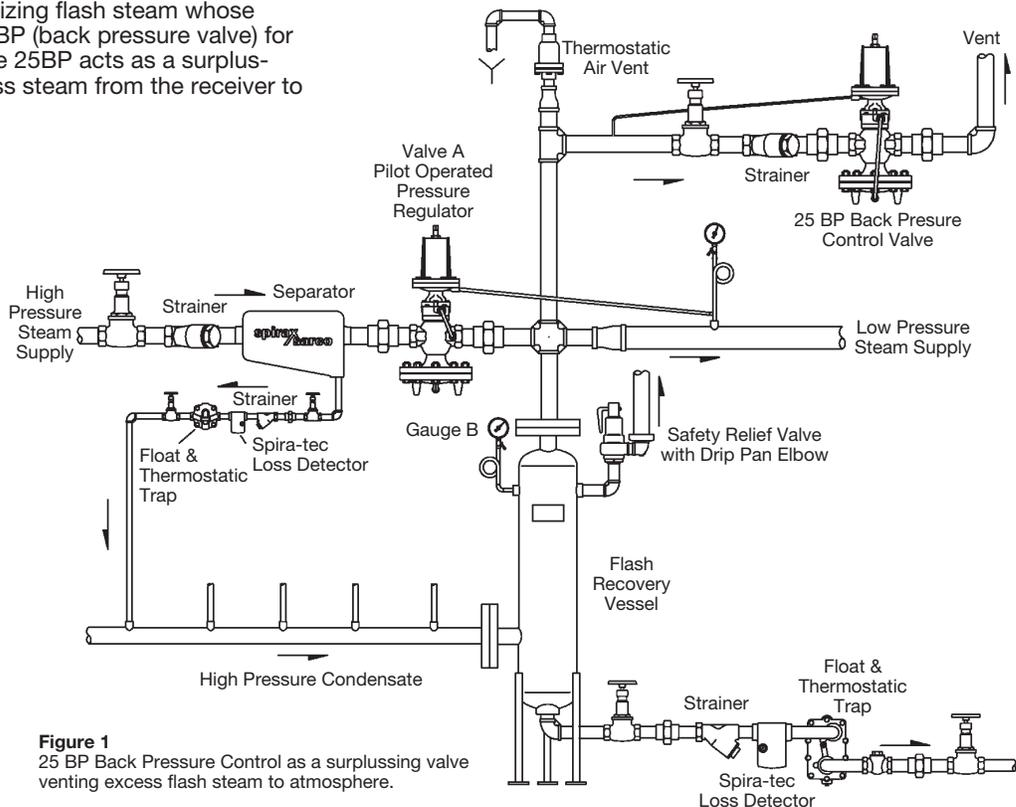

Figure 1
- Type A. As a Back Pressure Surplussing Valve.** The normally closed main valve is opened by the pilot when the inlet pressure increases above its setting. (Figure 1)
1. Typical hookup sketches as shown in Figures 1, 2 and 3 will aid in planning a correct installation.
2. Connect the sensing line to the upstream side of the main valve to a straight portion of the piping 10 pipe diameters from nearest fitting and approximately 1 foot from elbows, tees, valves and other restrictions. (See figures 1, 2 and 3).
A typical flash recovery system hookup is shown in Figure 1. This application allows utilizing flash steam whose pressure is limited by the 25BP (back pressure valve) for low pressure processing. The 25BP acts as a surplussing valve venting only excess steam from the receiver to atmosphere.